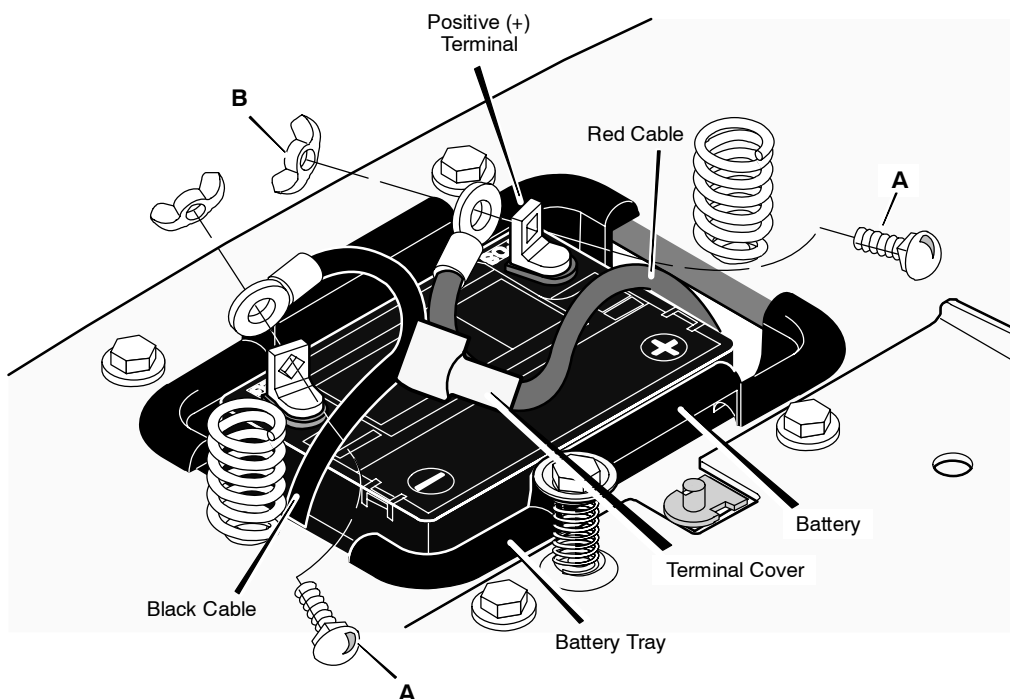

Figure 4
1. Check the top of the battery for the location of the **battery date** (Figure 4).
2. Fasten the **red cable** and **terminal cover** (if equipped) to the **positive (+)** terminal with the fasteners as shown (Figure 4).